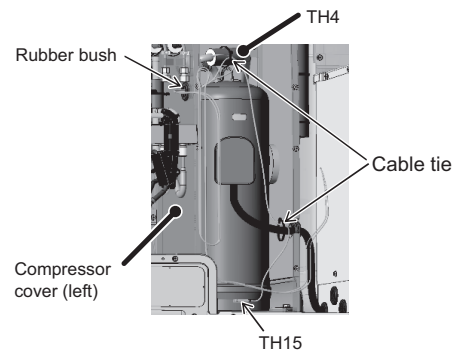

Figure 3
- (3) Cut the two tie bands holding TH4 and TH15, and remove the wiring from the rubber bush on the left compressor cover. (See Figure 3.)